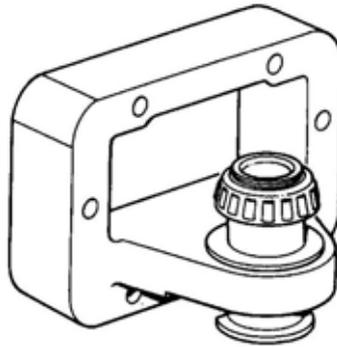

Figure 14 Positioning the Bearing and Spacer
- b. Position the bearing-to-housing spacer and the inner bearing on the shaft (Figure 14).